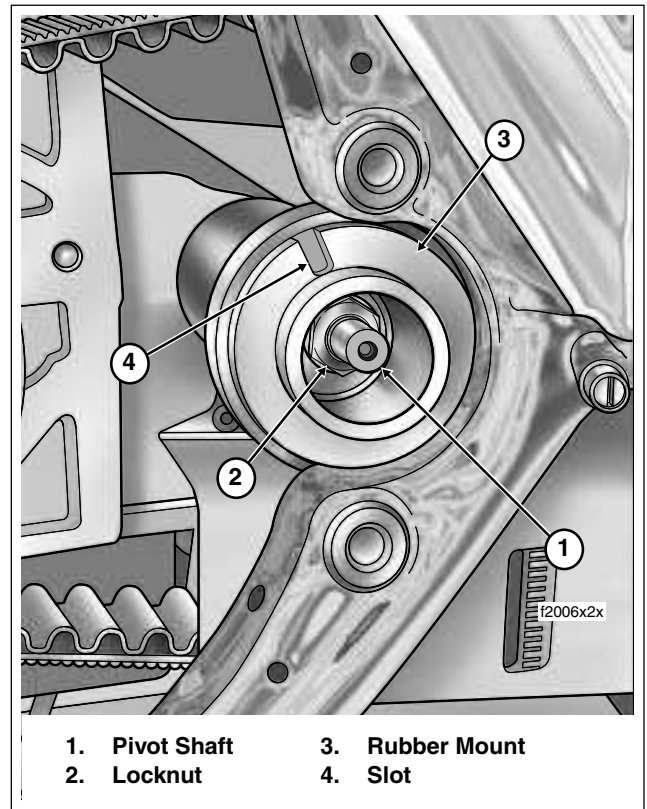

Figure 2-96. Remove Rear Swingarm Bracket (Left Side View)
14. Remove two bolts (with lockwashers) to free rear swingarm bracket from left side of motorcycle frame. See Figure 2-96.
- g. Moving to left side of motorcycle, rotate the rubber mount so that the slot is between the eleven and twelve o'clock positions. Install left side swingarm bracket fitting index tab into rubber mount slot. See Figure 2-96.